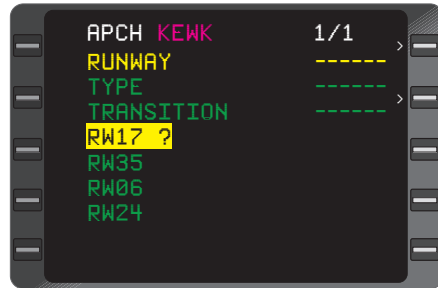

Figure 3-53
2. **ENT** Key - DEPRESS to display **APPROACH** Page. (Figure 3-53)